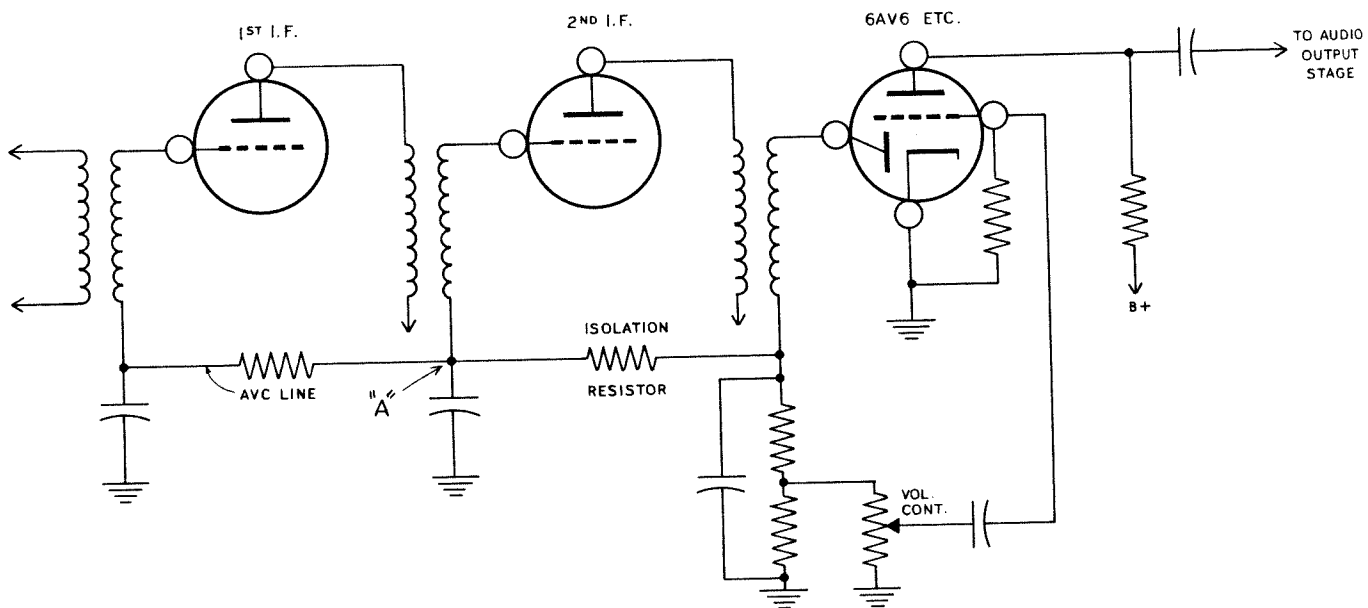

Figure 7
- ( ) Refer to Page 11, Pictorial 3 in the BR-2 manual. Connect one lead of the 10 megohm resistor to N1 (S) and the other lead to D3 (NS).
- ( ) Connect one end to D3 (S) and the other end to terminal #2 of the phono socket (S).
- ( ) If the phono socket on the receiver is being used mount the phono socket supplied with the kit on the rear apron of the chassis directly in line with tube socket D. Refer to Figure 7 for hole sizes.